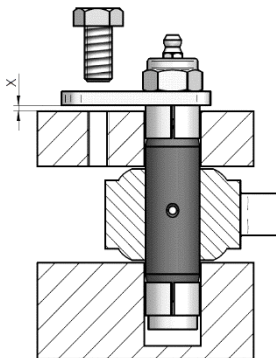

Fig. 2.1
- (1) Position Extenderbolt in bearing position
- (2) Secure lug with screw (Fig. 2.1).